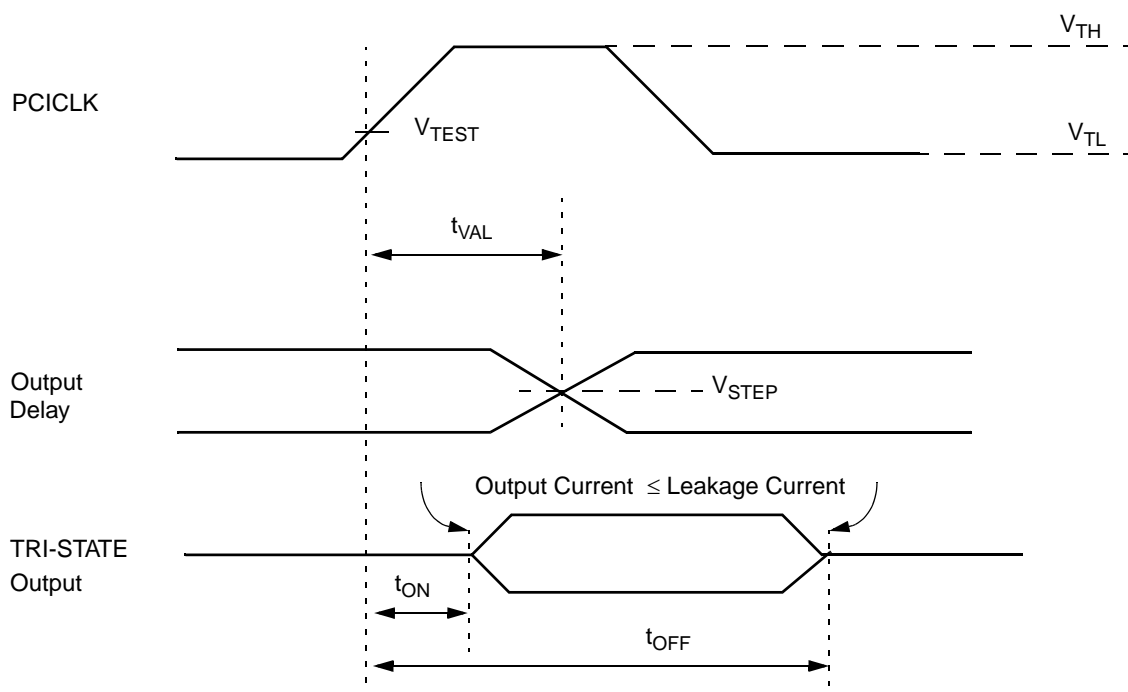

Figure 8-17. PCI Output Timing Measurement Conditions
1. See the timing measurement conditions in Figure 8-17.